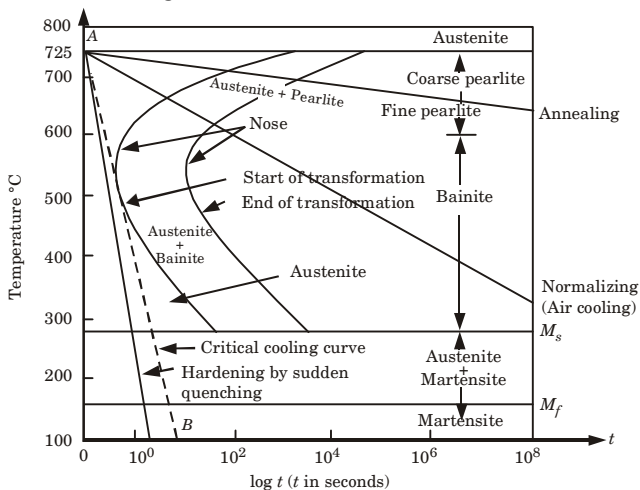

Fig. 5. The TTT curve showing temperature and log (time) variation for an eutectoid steel, and its different phases.
12. A complete feature of TTT diagram to show its different phase is shown in (Fig. 5).